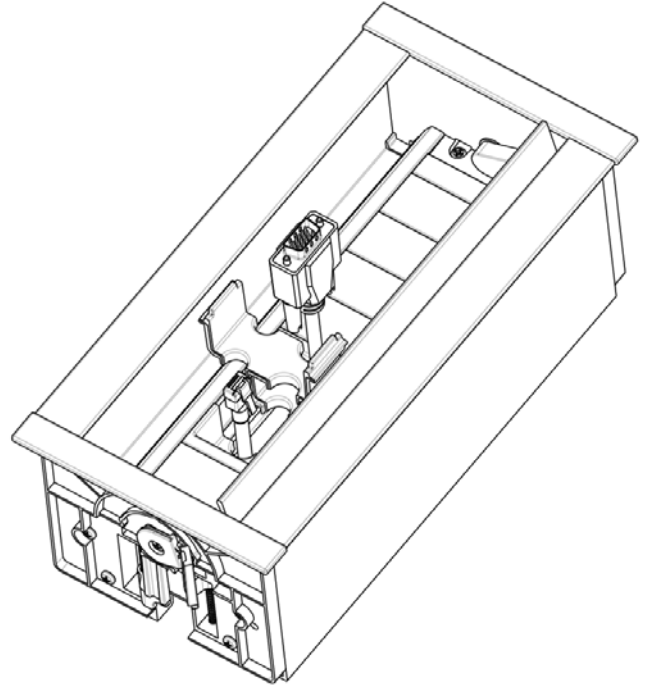

FIG. 4 REPLACING THE HPX-CPTS100-W MODULE
2. Press firmly on each side of the HPX-CPTS100-W until it snaps firmly into the metal frame (FIG. 4).